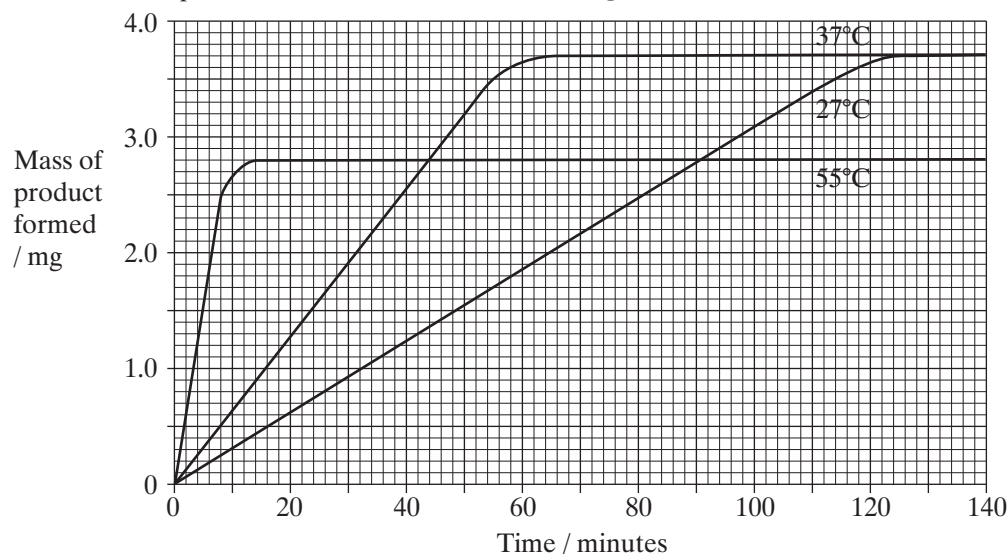

Figure 2
- 2 A student carried out an investigation into the mass of product formed in an enzyme-controlled reaction at three different temperatures. Only the temperature was different for each experiment. The results are shown in **Figure 2**.